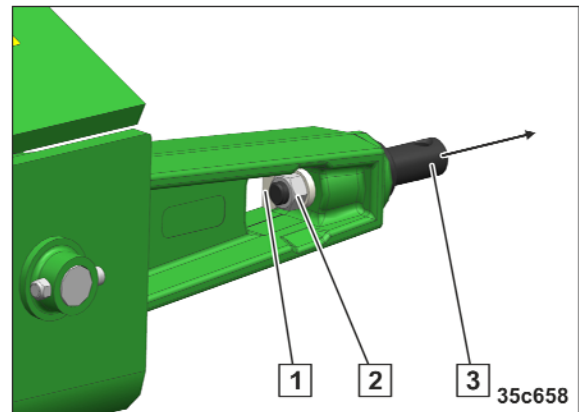

Fig. 113
1. Unscrew the nut (Fig. 113/2) and remove it.
2. Remove the guard plate (Fig. 113/1).
3. Remove the lower link pin (Fig. 113/3).